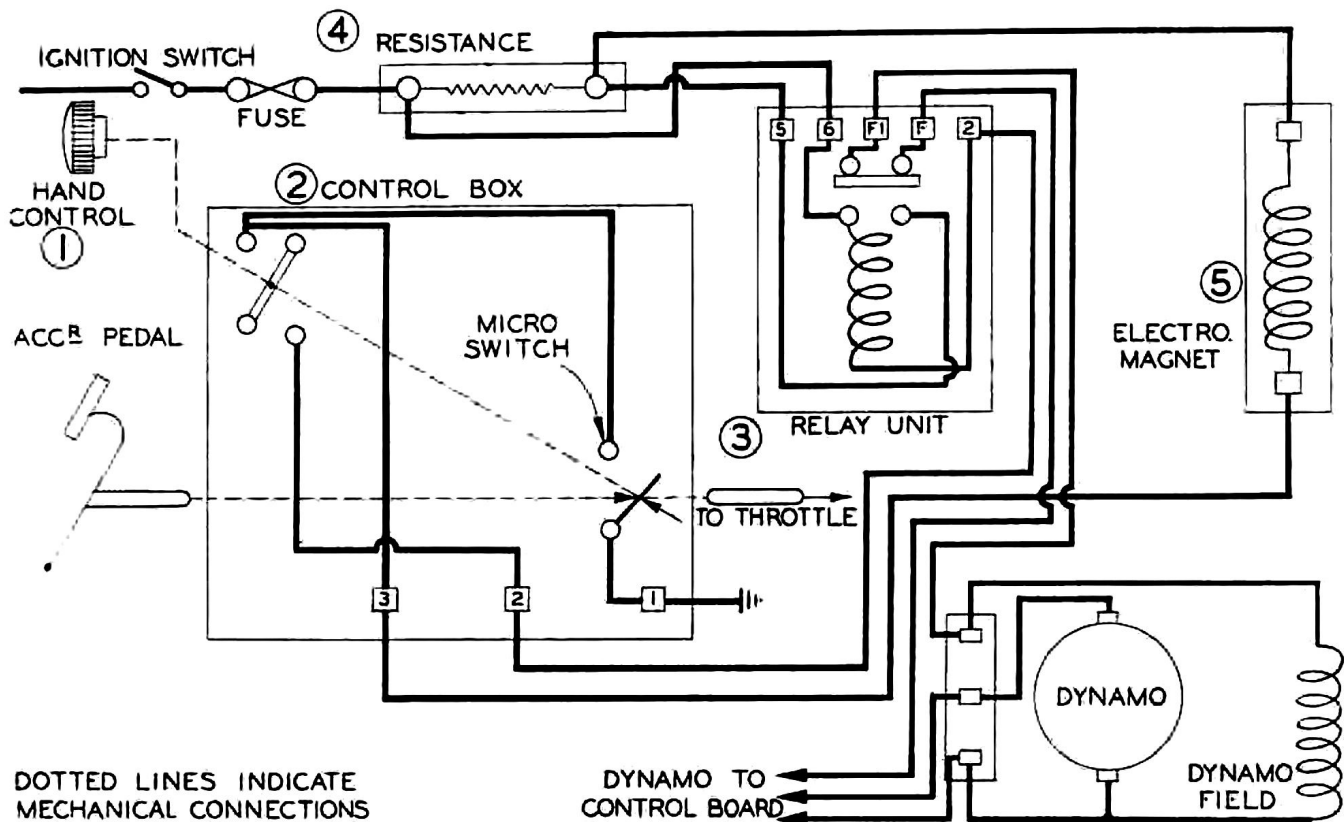
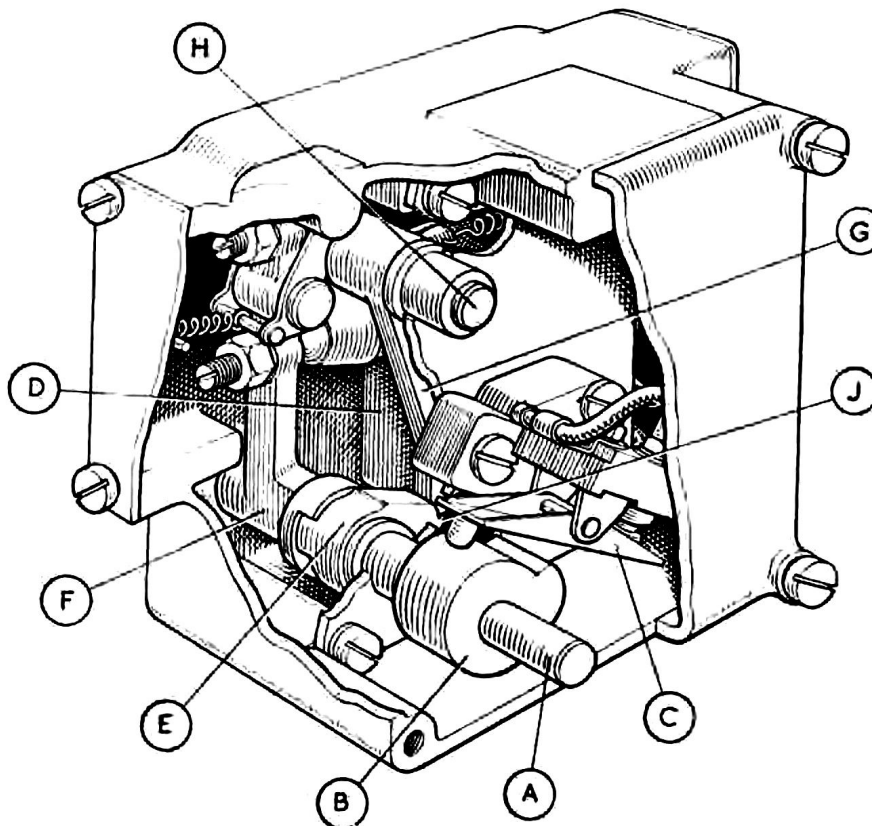

Fig. 69.- WIRING DIAGRAM FOR TWO-SPEED DYNAMO.
Fig. 70.—SECTION OF THE CONTROL BOX.
The wiring diagram of the control system is shown in Fig. 69. It comprises the switch lever (1), control box (2), relay (3), series resistance (4) and electro-magnet (5). The arrangement of the control box is shown in Fig. 70. The operation of the system is as follows : Movement of the switch lever to engage the high speed
drive causes the rotation of the spindle (A) (Fig. 70), in the control box and the cam (B) fitted on the spindle closes the contacts of the switch (C). This completes the circuit from the operating winding of the relay to the switch (D). Further movement of the spindle (A) engages the drive to the cam (E) controlled by a spring and to an arm (F). Rotation of the cam (E) causes a second arm (G) fitted on a shaft (H) attached to the carburettor to move until the end of the arm engages with a tooth (J) in the cam (E). This results in the engine speed being increased sufficiently to ensure satisfactory operation. At the same time, the lever arm (F) moves and at the end of its travel closes the contacts of the switch (D). The winding of the relay is now energised, and the relay armature pulls down to the pole face; this open-circuits the two contacts connected to terminals (F) and (F1) (Fig. 69), which disconnects the dynamo field, while at the same time the contacts connected to terminals (5) and (6) are joined and the resistance connected in series with the winding of the electro-magnet is short-circuited in order to apply full battery voltage to the electro-magnet winding which is connected to earth via the switch (D) (Fig. 70), and so the high speed drive is engaged.